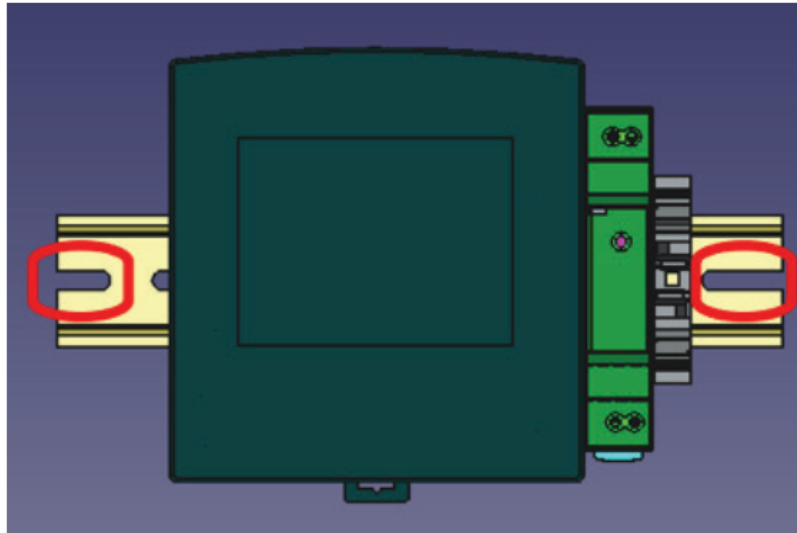

Figure 2
2. Place the unit with the DIN Rail horizontal and flat against the mounting surface. Secure in place using bolts or screw thru the perforations (25 mm x 5 mm) in the DIN Rail. Place one on each end (*see Figure 2*)